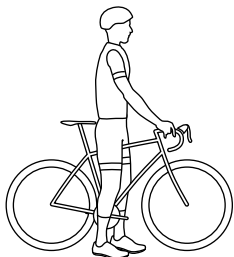

Figure 1.1: Correct ride height.
- For a bicycle with a standard straight top tube, there should be at least 25 mm (1") of clearance between you and the top tube when you stand over your bike (Figure 1.1)